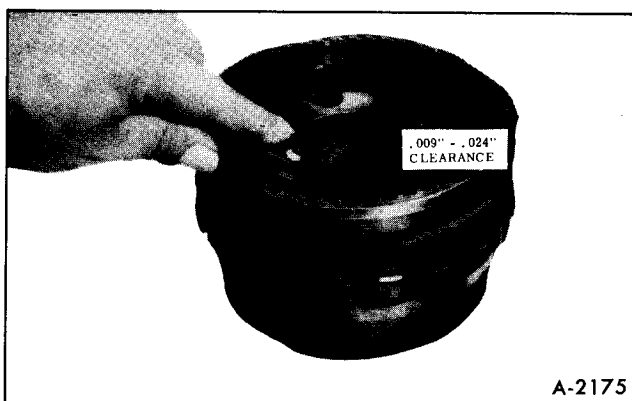

Figure 51—Check-Pinion End Play
3. Check pinion end play. Pinion end play should be .009 inch-.024 inch, Figure 51.